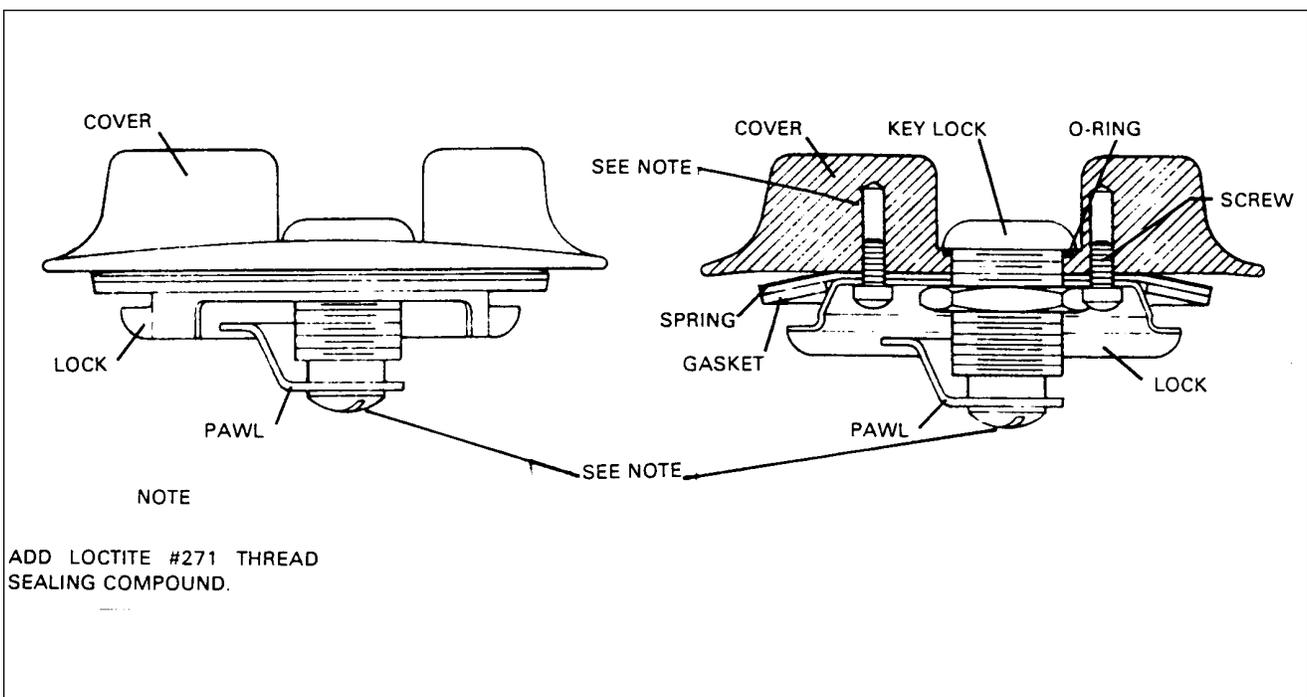

Figure 28-2. Locking Fuel Cap Assembly
**DISASSEMBLY OF LOCKING FUEL CAP** (figure 28-2)